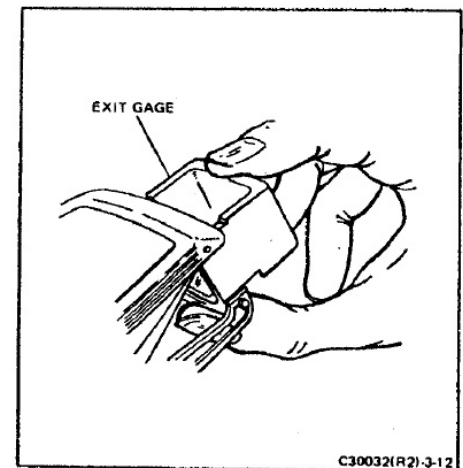

FIGURE 3-12 INSTALLING THE EXIT PUPIL GAGE
a. Mount the exit pupil gage onto the camera eye-lens (Figure 3-12).
- (1) Engage the left side gage rail on the eye-lens. (The right side is identified by a 3/4" horizontal slot.)
- (2) Slowly slide the right side in place. A distinct "clicking" will be heard when the gage is secure.